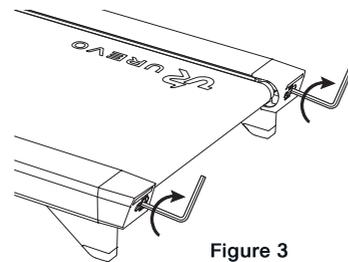

Figure 3
2. Using the hex tool, turn both idler roller screws clockwise $\frac{1}{2}$ of turn(refer to figure 3).